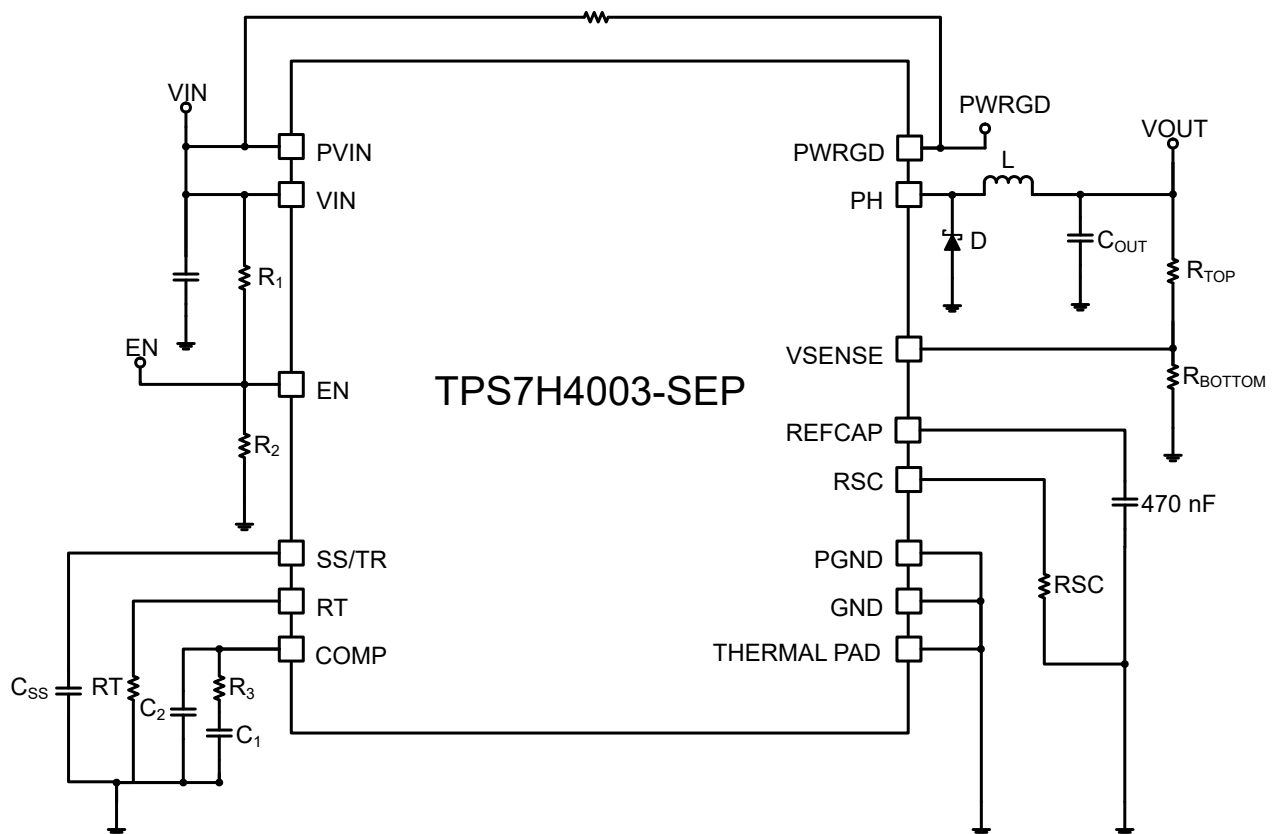

图 8-1. Typical Application Schematic
Figure 8-1 shows a Schottky diode between the phase node pin (PH) and GND of the TPS7H4003-SEP. This external diode is in parallel with the internal low-side power FET of the device and typically has superior reverse recovery characteristics when compared to the body diode of the internal low-side FET. This improved reverse recovery provides two key benefits. The first benefit is an better overall efficiency for the converter due to lower losses associated with the diode reverse recovery. The second key advantage is that the parasitic-induced noise associated with the reverse recovery current pulse (as detailed in Figure 5 of Power Loss Calculation With Common Source Inductance Consideration for Synchronous Buck Converters) is drastically reduced. In the absence of the Schottky diode, this noise can manifest itself on the power ground plane internal to the TPS7H4003-SEP. If significant enough, the noise can reduce the dynamic range of the error amplifier and result in higher output voltage ripple. For this reason, it is highly recommended to use the external Schottky diode in the converter design. At the least, a PCB footprint for the diode should be included in the PCB design phase in case it is needed to achieve the system requirements.